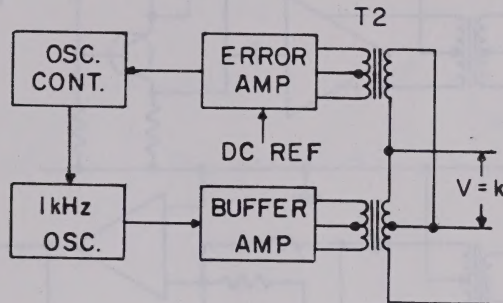

Figure 4-6
a. 1-kHz Voltage Source. The test voltage applied to the test capacitor is continuously compared with a stable dc voltage, and any error in the test voltage is amplified and applied to control circuitry so that the level adjusts to the proper value. A simplified diagram is shown in Figure 4-6.
Thus far, the discussion of the input amplifier has ignored an important factor: stability. Generally, some method of introducing the feedback from the output to the input is required if the amplifier is to achieve a stable dc operating point. This is accomplished by placing a network in parallel with each feedback capacitor (Figure 4-6). The network is designed for a very small impedance feedback signal at 1 kHz, while providing dc stability.